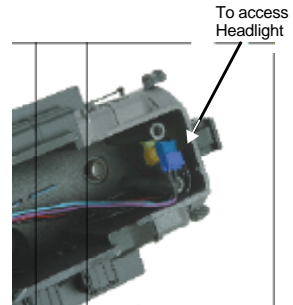

Figure 8
1. Unplug the blue connector in the front of the boiler shell. See fig. 8
1. Unplug the yellow connector in the front of the boiler shell. See fig. 8